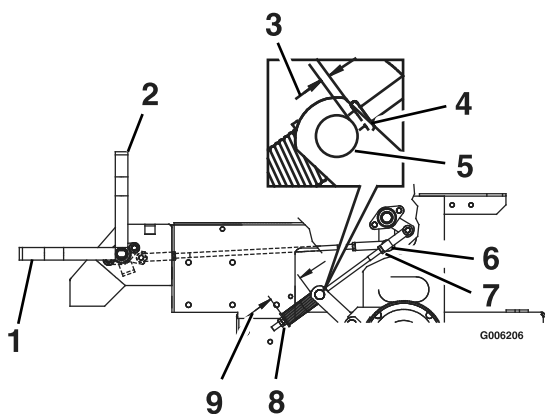

Figure 15
2. Measure the length of the spring. Measurement should be 2 3/4 inches (7.0 cm) between washers. (Figure 15).
4. If adjustment is necessary, loosen the nut directly below the yoke. Turn the bottom nut (below washer) until the correct measurement is obtained see Figure 15 turn nut clockwise to lengthen the gap (screws rod into yoke) and turn counterclockwise to shorten the gap (screws rod out of yoke). Tighten nut against yoke and check opposite side of unit, repeat if necessary. Lengthen (or shorten) the brake rod until the correct gap can be achieved by following steps 2 and 3.